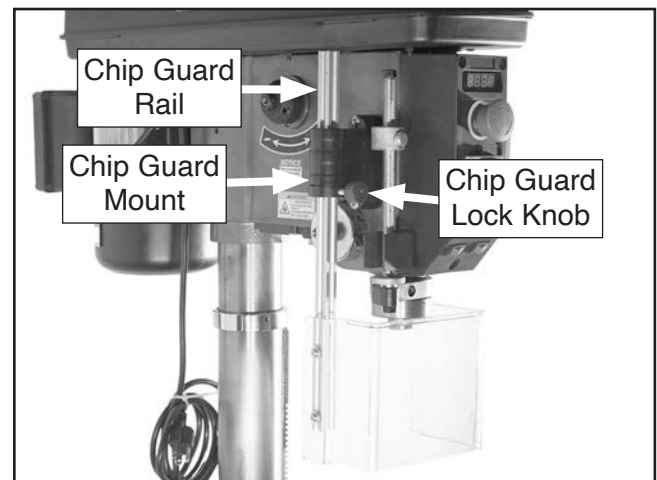

Figure 24. Chip guard rail inserted through mount (T33960 shown).
11. Loosen chip guard lock knob (see **Figure 24**), insert chip guard rail through bottom of mount on side of headstock, then tighten lock knob to secure.